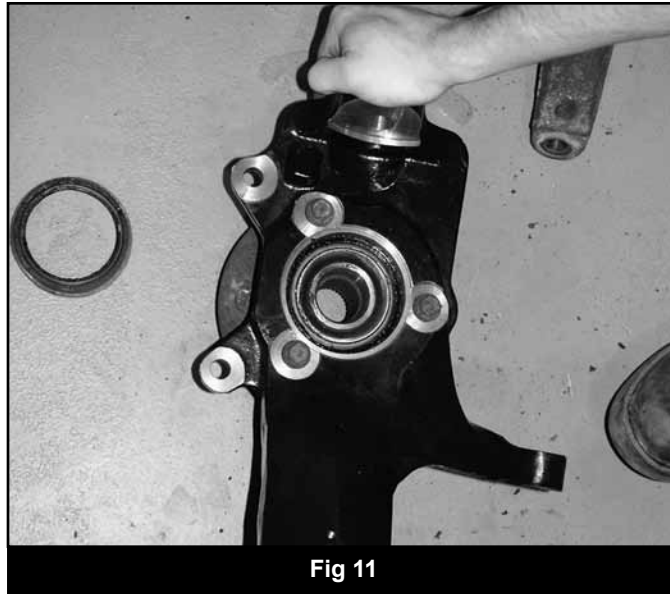

Fig 11
40. Inspect the outer hub assembly mounting surfaces and clean any dirt or corrosion off as necessary. Install the front hub assembly into the new BDS steering knuckle and fasten with three OE bolts (Fig 11). Use Loctite® on the bolts and torque to 80 ft-lbs.